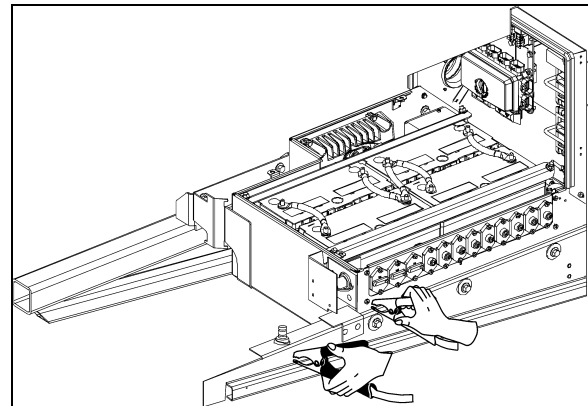

FIGURE 21: BOOSTER BLOCK
On X3-45 coaches, booster block is located near the batteries in the engine compartment on the R.H. side and is accessible through engine R.H. side door (Figure 21).
1. Connect one end of one red jumper cable to the positive (+) terminal of the booster power source and the other end to the positive (+) post of the booster power block, located on the R.H. side of the engine compartment (refer to Figure 21).